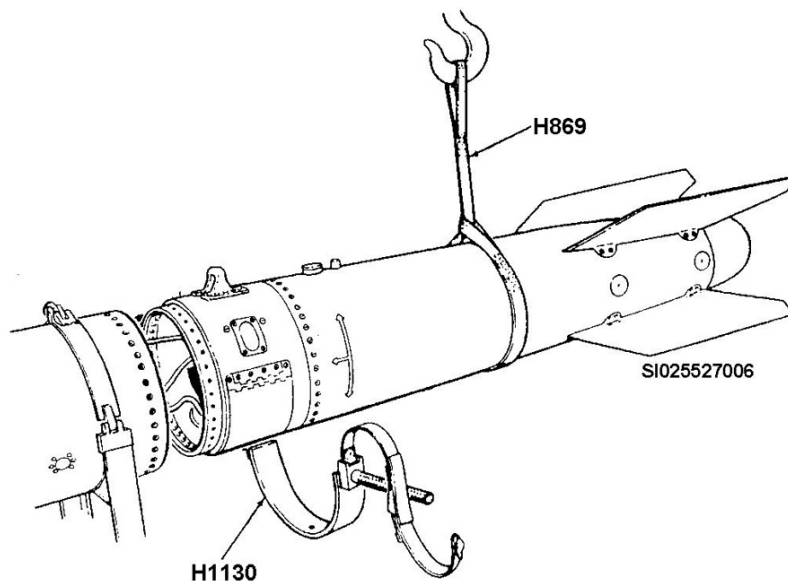

Figure 1-14. H869 strap and H1130 supporting a B61 tail.
1. Use the H1130 bomb tail-handling device to support the tail bomb subassembly during weapon disassembly if you don't have a hoisting device available (fig. 1-14). When using the H1130, support the tail at both the forward and aft end.
2. Use the H869 nylon strap sling used with a hoisting device to support the tail during disassembly and assembly (fig. 1-14). To attach the H869, slip the strap around the tail's CG and insert the end marked HOOK through the loop on the opposite end. Then tighten the strap, attach the end marked HOOK to the hoisting device, and remove any slack from the strap by raising the hoisting device. Keep in mind someone must hold the tail to keep it from swinging.